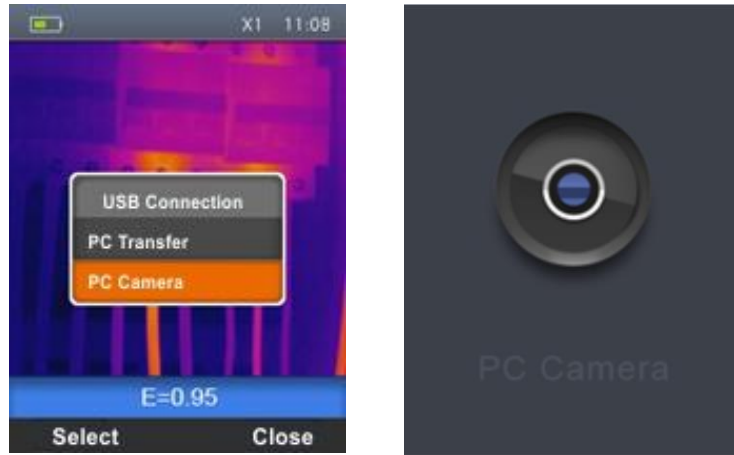

Fig. 39: Displaying an image on the PC in real time
1. Connect the USB cable to the instrument (see Fig. 3 – Part 16) and to the PC. The following screen (see Fig. 39 – Left side) is shown on the display:
2. Use the keys \oplus or \ominus to select the option "PC Camera" and press the "Select" key. The screen Fig. 39 – Right side is shown on the display.